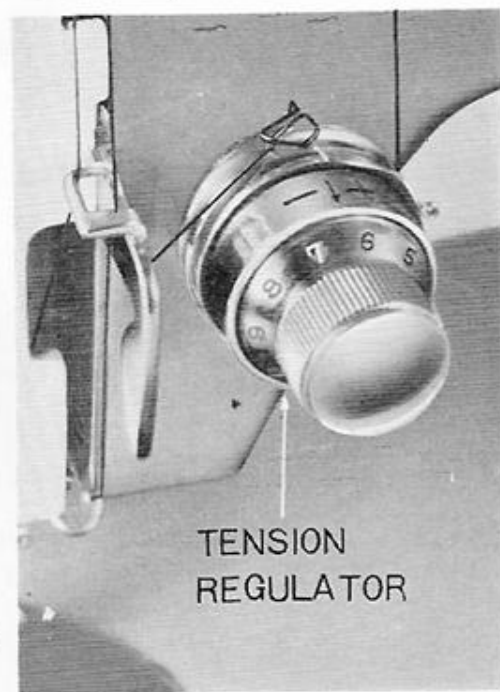

Fig. 11
- (b) Turn the upper thread tension regulator (Fig. 11) to the right to increase the tension.